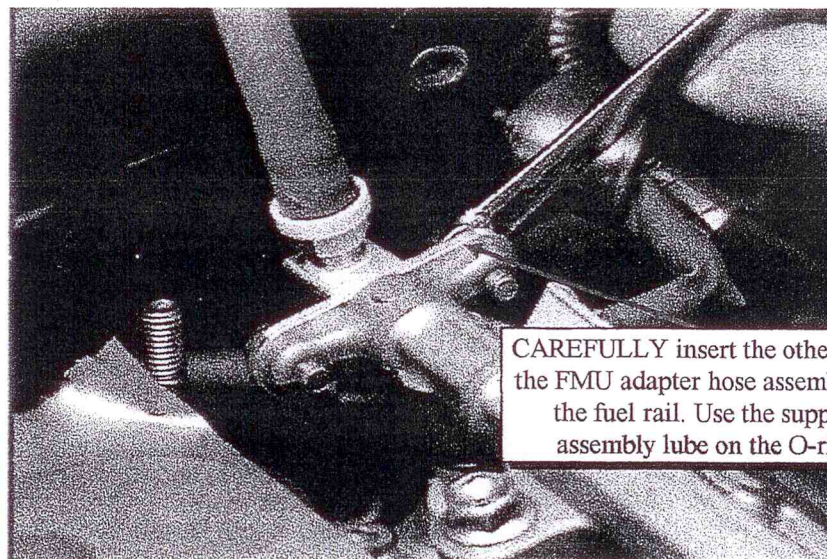

FIGURE 12
20. Insert the male end of the adapter hose assembly into the bore of the fuel rail, as shown in **Figure 12**, using the same gentle turning motion as before while pushing the fitting on. Do not damage the O-ring. If the O-ring is or becomes damaged in any way, it must be replaced. Again, never hurry or force the parts together. Install the original bolts through the adapter fitting into the fuel rail end. Make sure the adapter sits flat on the fuel rail mounting surface. No gap is permissible.